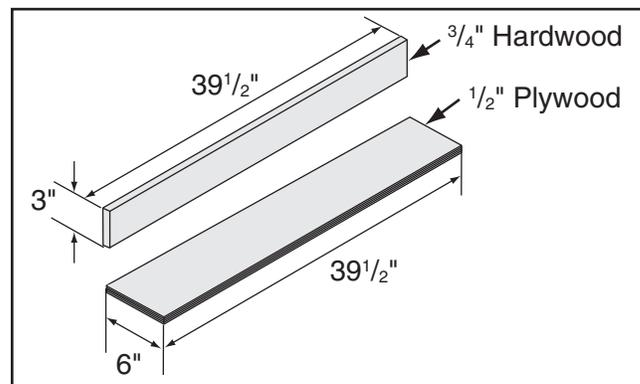

Figure 124. Auxiliary fence dimensions.
1. Cut a piece of $\frac{1}{2}$ " thick plywood 6" by $39\frac{1}{2}$ ", and cut a piece of $\frac{3}{4}$ " thick hardwood 3" by $39\frac{1}{2}$ ", as shown in **Figure 124**.